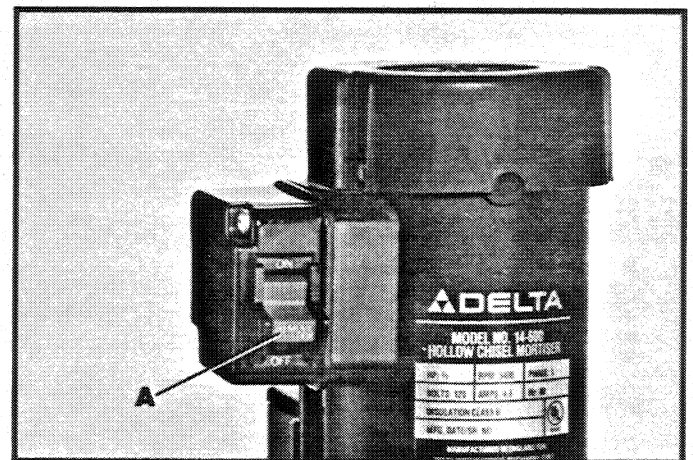

Fig. 19
The switch (A) Fig. 19, is located on the side of the motor. To turn the mortiser "ON" move the switch to the up position. To turn the mortiser "OFF" move the switch to the down position.